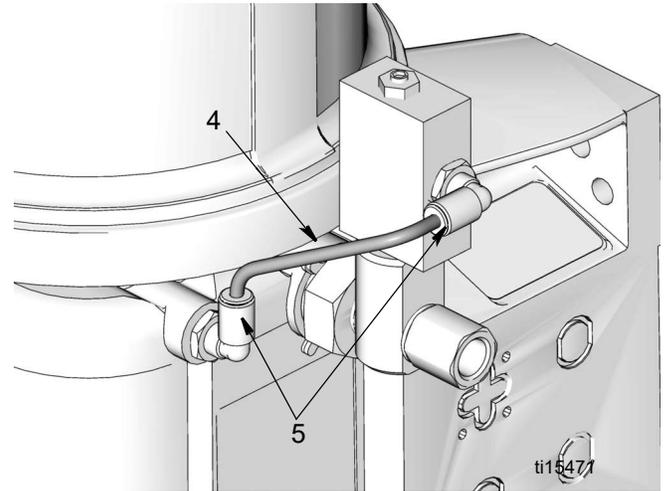

**FIG. 6**
12. Use two wrenches to tighten the banjo fitting (3). Place one wrench on the pump element (d) and the second wrench over the end of the banjo bolt (3). **ONLY** tighten the banjo bolt (3) while holding the pump element (d) securely in place. Torque banjo bolt (3) to 35 ft. lbs (45.7 N•m). Take care to not over-tighten (FIG. 6).